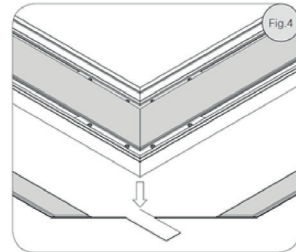
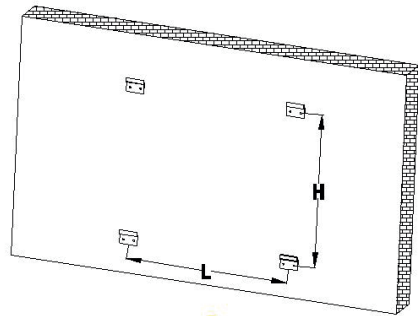

Fig 10
Fig 15.
2. Measure the distance H and L (acc. to fig. 10) and transfer this onto the wall (Fig. 15).